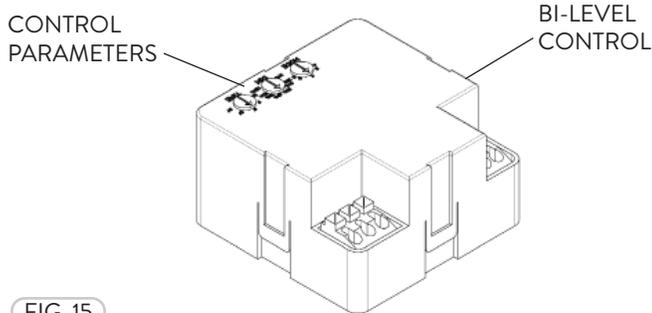

FIG. 15
- The integrated Bi-Level Occupancy Control is a programmable microwave motion detector (Fig. 15). The Bi-Level Control is pre-installed. **NOTE:** Subject to availability, might substitute with other sensor models with similar functions.